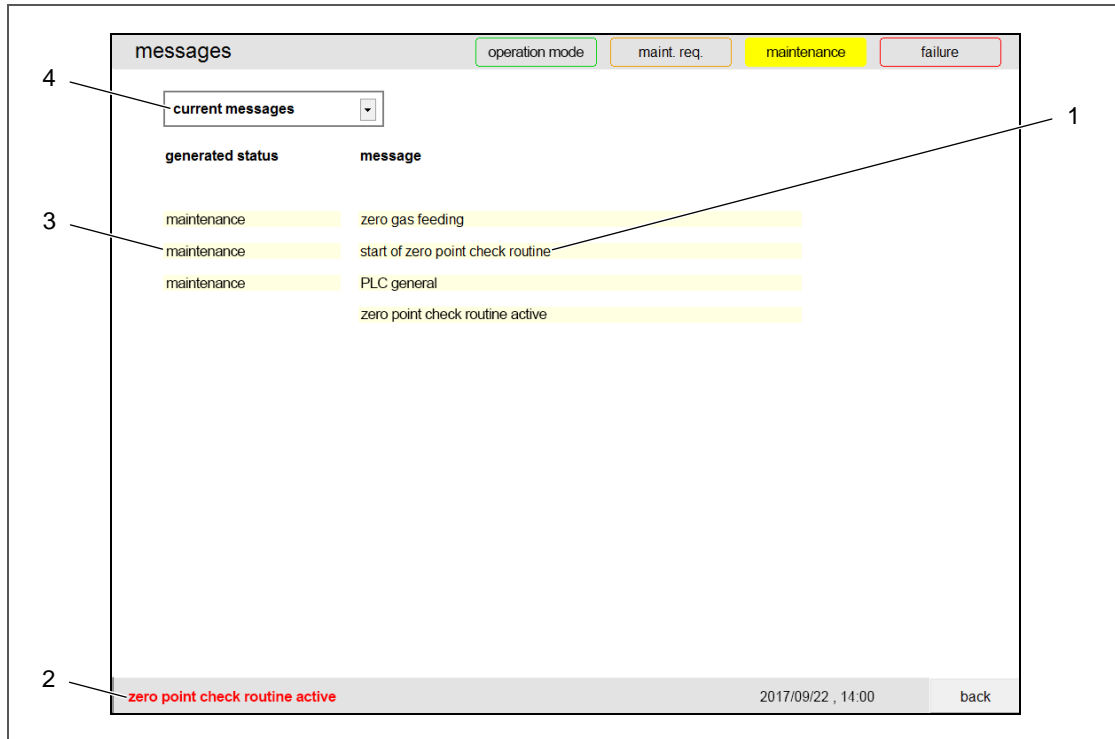

Fig. 30: Menu “messages” – current messages
In the menu all currently upcoming messages are listed. Therefor the generated status (3, Fig. 30; not in case of info messages) as well as the characterisation of the event (1) are displayed as clear text. The overview is actualised in the interval of one second.